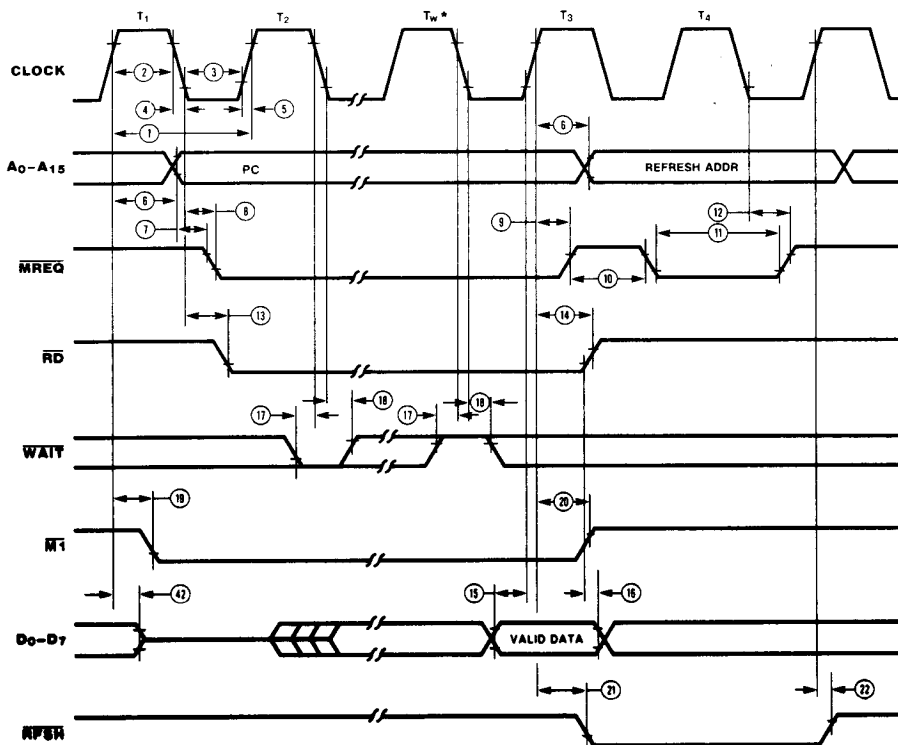

Figure 5. Instruction Opcode Fetch
**Instruction Opcode Fetch.** The CPU places the contents of the Program Counter (PC) on the address bus at the start of the cycle (Figure 5). Approximately one-half clock cycle later,  $\overline{MREQ}$  goes active. When active,  $\overline{RD}$  indicates that the memory data can be enabled onto the CPU data bus.